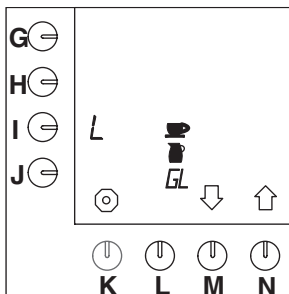

Fig. 21 Units to be selected
- A selection can be made from the following units: Litre = L, Gallon = GL (3.7853 L), Jug, or Cup (fig.21 ).